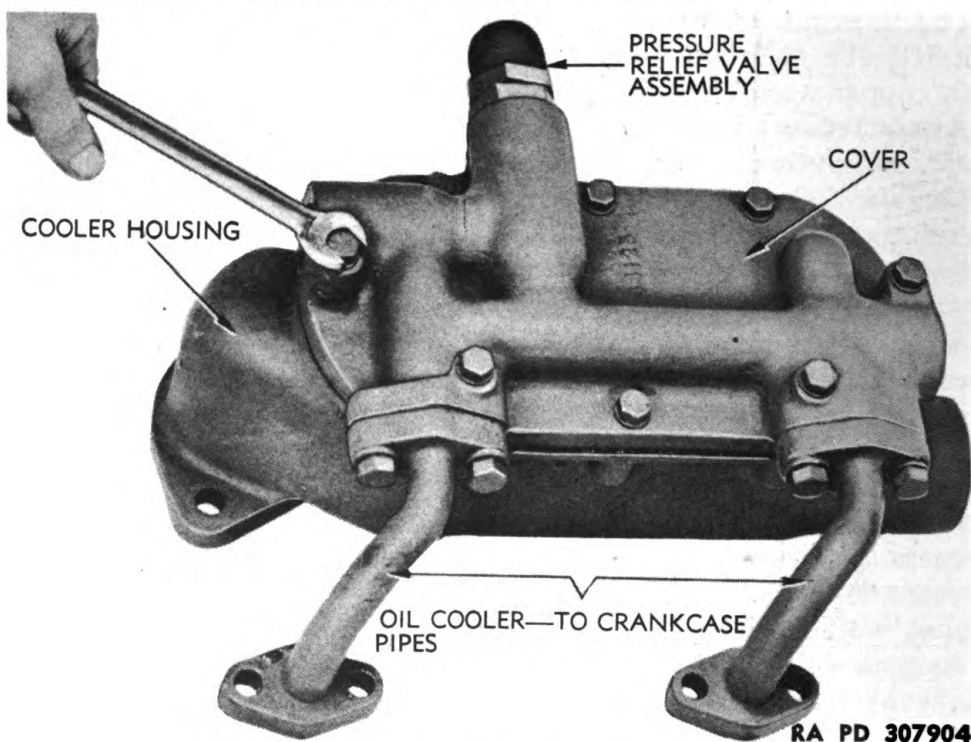
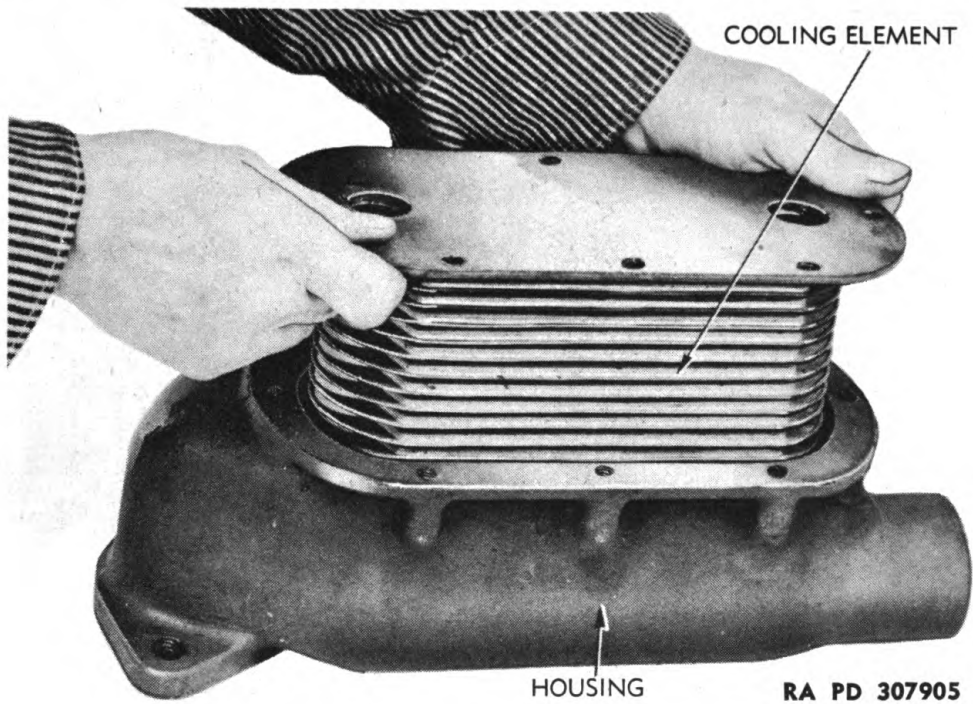
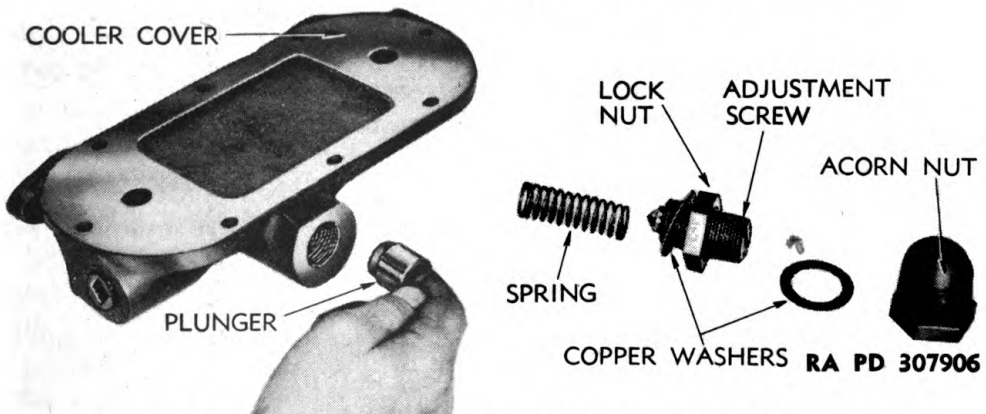

Figure 97 — Oil Cooler Cover Removal
Figure 98 — Lifting Element From Oil Cooler Housing
Figure 99 — Oil Cooler Pressure Relief Valve Removal
b. Disassembly of Cooler. Remove oil cooler to crankcase pipes by removing two cap screws and lock washers that attach each pipe to cover of cooler. Remove the eight cap screws and lock washers that attach cover to housing (fig. 97) and remove cover from housing. Lift element from housing (fig. 98). Remove large acorn nut and gasket from pressure relief adjustment screw, loosen lock nut, and unscrew pressure relief adjustment screw from cover. Then pull spring and plunger from cover (fig. 99). *NOTE: Do not disassemble the relief valve assembly unless in need of cleaning or repair.*
(1) **INSTALL AND ADJUST PRESSURE RELIEF VALVE.** Insert relief valve plunger into cover (fig. 99), then install plunger spring and adjustment screw. Valve must now be adjusted to open with six-pound pressure. This can be done as follows: Plug the two holes (at bottom and inside of cover) in end of cover farthest from relief valve and remove the pipe plug from end of cover. Using proper fittings, connect an oil line with an oil pressure gage in the line to this hole and connect a suitable pump to other end of line. Turn adjustment screw of valve in, or out, until valve will open and allow oil to pass through and out of other end of cover with six-pound pressure registering on gage, as oil is pumped through. Then install copper gasket and lock nut on screw, tighten lock nut, and install second copper gasket and acorn nut. Remove plugs and oil line from cover and install pipe plug, using white on red lead on threads.
(2) **ASSEMBLE ELEMENT AND HOUSING.** Cement new gasket to cooler housing. Coat outer side of gasket with cement and set element in housing (fig. 98). Cement new gasket to outer plate of element, coat outer side of gasket with cement, set cover on element and housing, and attach with eight cap screws with lock washers (fig. 97). Use new gaskets and attach oil cooler to crankcase pipes to cooler cover as shown in figure 97 with two cap screws with lock washers in each.